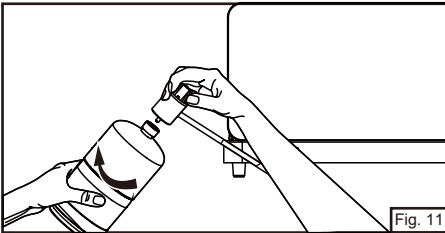

Fig. 11
- Remove propane cylinder from regulator and replace protective cap on cylinder. (Fig. 11)